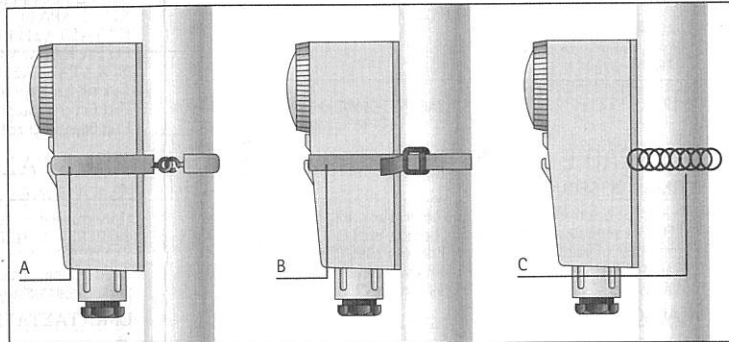

fig.4 - εικ.4
- B) Fissare il prodotto alla tubazione utilizzando l'accessorio specifico in dotazione. (fig.4)
B) Disjoin the adjusting knob (when present) and then release the relevant fixing screw. Remove the front cover. Thread the power supply wires in the provided fairlead and connect them to the appliance terminals (fig.4) according to the instructions of the following paragraph "Wiring Connections". Snap the front cover back, tighten it by means of the provided screw and then fit the knob in its proper seat (if applicable).